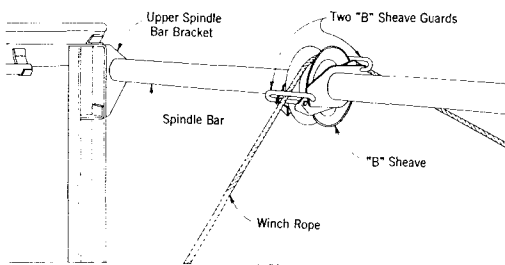

Fig. 4—Two B Sheave Guards, Spindle Bar in Upper Position
5.02 When the B sheave is used on the spindle bar in the upper position, no sheave guard is normally required, since it is beyond the reach of anyone working at ground level. No one should be permitted on the truck platform while the winch line is being used. However, if work operations require personnel to be on the truck platform while the winch is being used, two guards shall be placed. Work operations done with the sheave in its upper position usually require the winch line to be under tension in both directions. Fig. 4 shows two sheave guards in place with the spindle bar in the upper position.